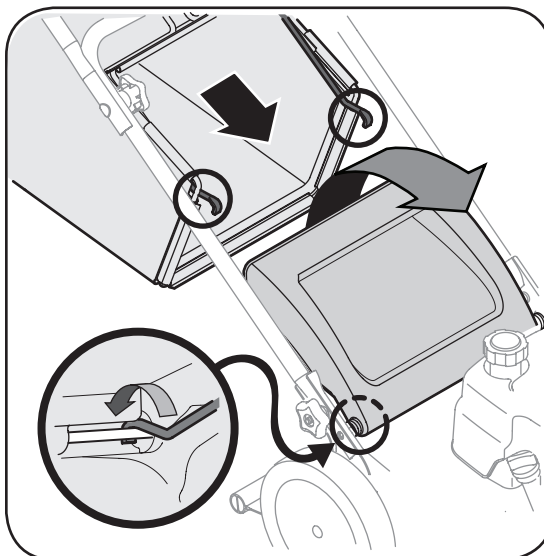

Figure 3-6
- b. Place the grass catcher on the pivot rod. Let go of discharge door so that it rests on the grass catcher. See Figure 3-6.